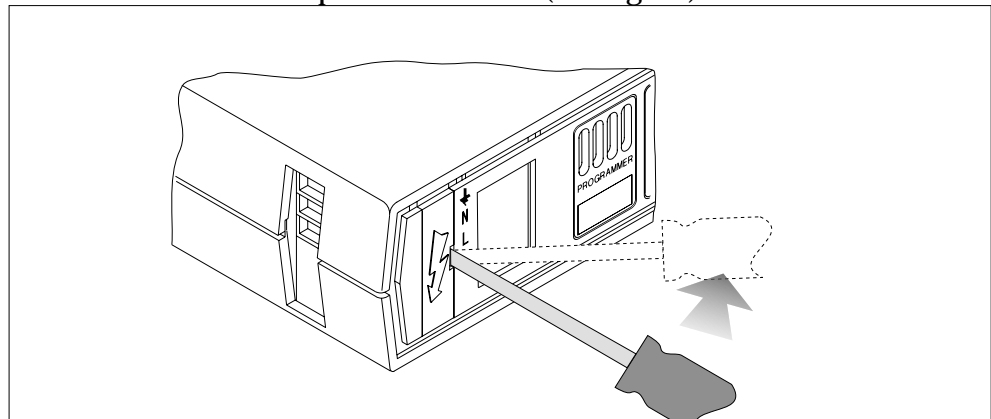

Fig.2-2: Removing the power terminal cover.
3. Insert the blade of a small flat-bladed screwdriver into the notch on the terminal cover plate, and gently prise out the plate to gain access to the terminal screws for the power connector (see Fig.2-2).
1. Insert the blade of a small flat-bladed screwdriver into the notch on the terminal cover plate, and gently prise out the plate to gain access to the terminal screws for the power connector (see Fig.2-2).